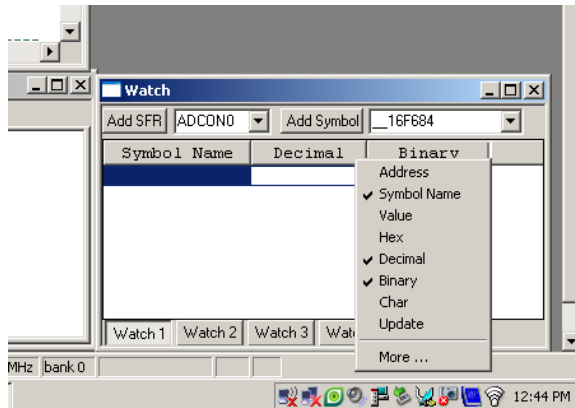

Fig 2.2: Value dropdown menu selections
7. Setup *Watch* window (Fig 2.2):